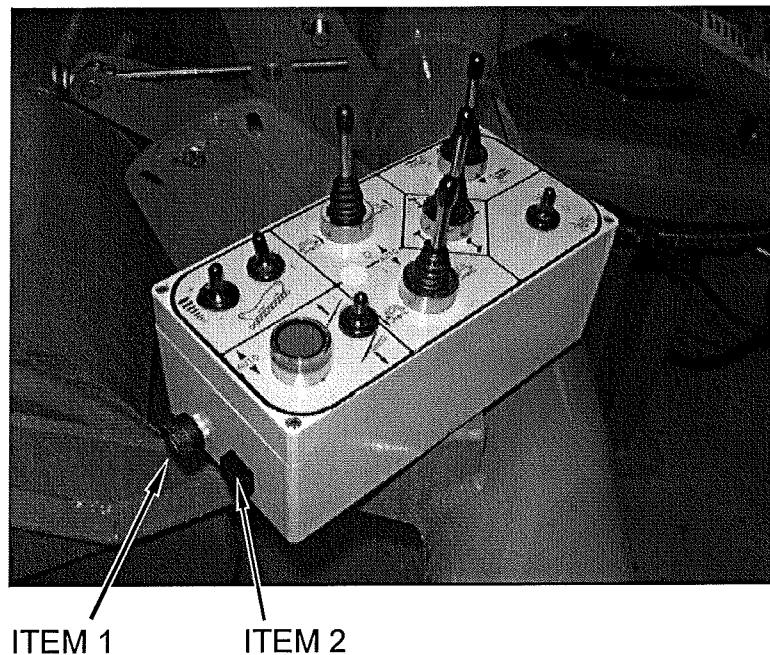

Fig 4.4
This control consists of a rotary ON/OFF switch (fig 4.4 item 1) which controls the electrical supply to the control box and is operated by rotating to turn ON or OFF. WHEN OFF, ALL ELECTRICAL POWER TO THE MEGASTAR ELECTRICAL CIRCUIT IS TURNED OFF.
This is a safety cut out switch which protects the control box from over voltage. (fig 4.4 item 2) If volts rise above the correct level then the switch will pop out. By switching the power off this safety switch can be reset by pushing in until it latches in place. If the safety switch keeps cutting out then there is a problem in the electrical circuit that must be attended to.